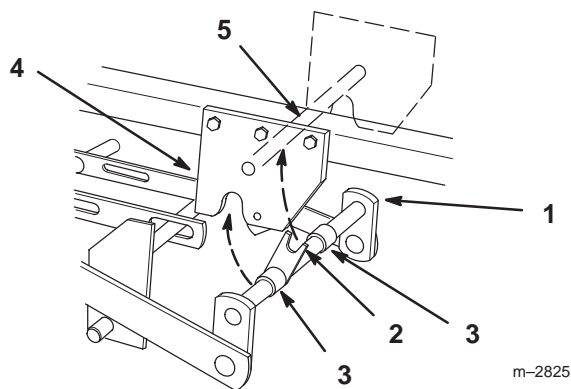

Figure 6
- Rotate front mounting shaft so fork faces up and align so spacers are between mid-mount hitch plates (Fig. 6).
8. Lift mower with attachment lift and guide fork to capture hitch rod (Fig. 6). Close mid-mount hitch lock handle.